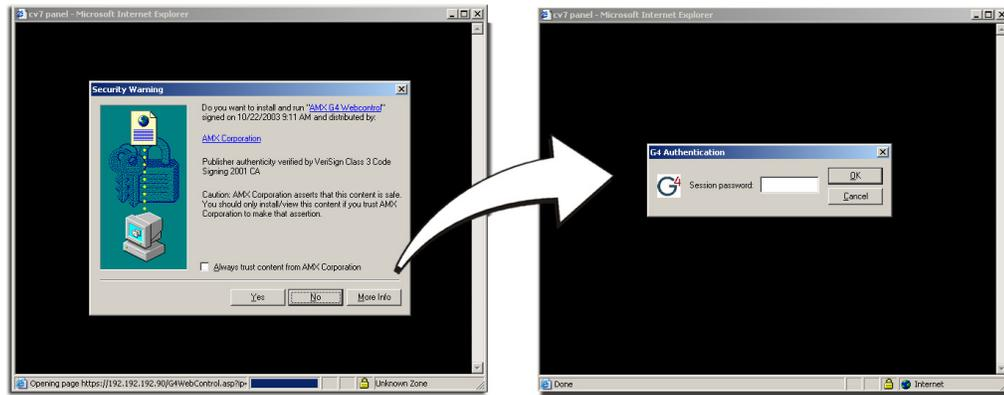

FIG. 77 WebControl VNC installation and Password entry screens
8. Click on the G4 panel name link associated with the target panel. A secondary web browser window appears on the screen (FIG. 77).
12. Enter the WebControl session password into the *Session Password* field (FIG. 77). This password was previously entered into the *Web Control Password* field within the *G4 Web Control* page on the panel.